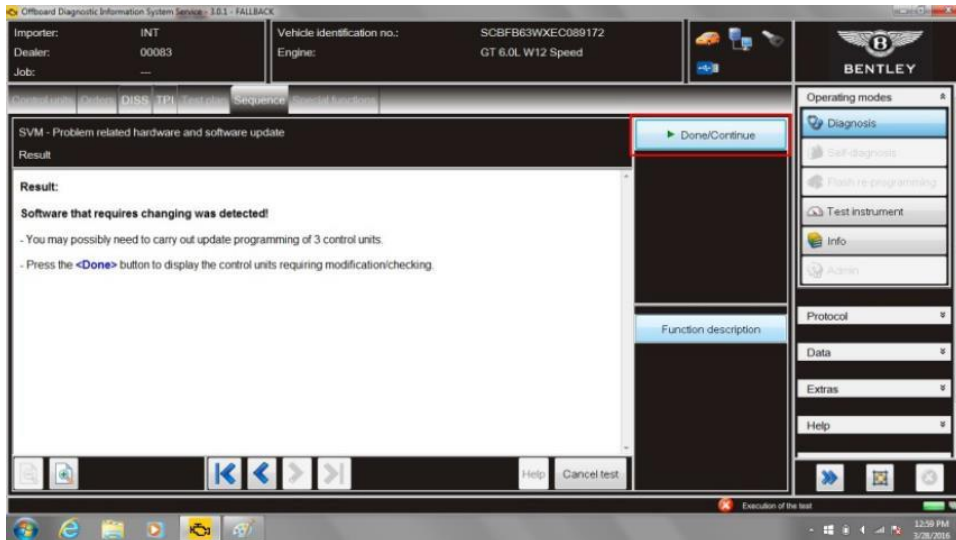

Figure 3
13. Once software that requires changing is detected, 3 units, select *Done/Continue* (see Figure 3) Note: each of the 3 control units will be offered for software update individually by the program. Follow prompts the online connection will deliver the required software to the tester